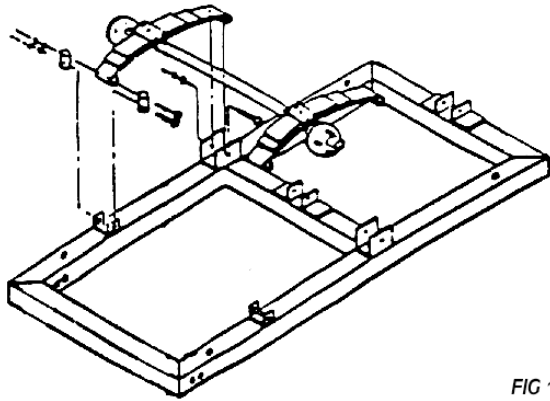

FIG 1A
2. Attach axle assembly to frame as shown in Fig. 1A. Using bolts, nuts and spacers provided. It may be necessary to tap the springs into place using a hammer.